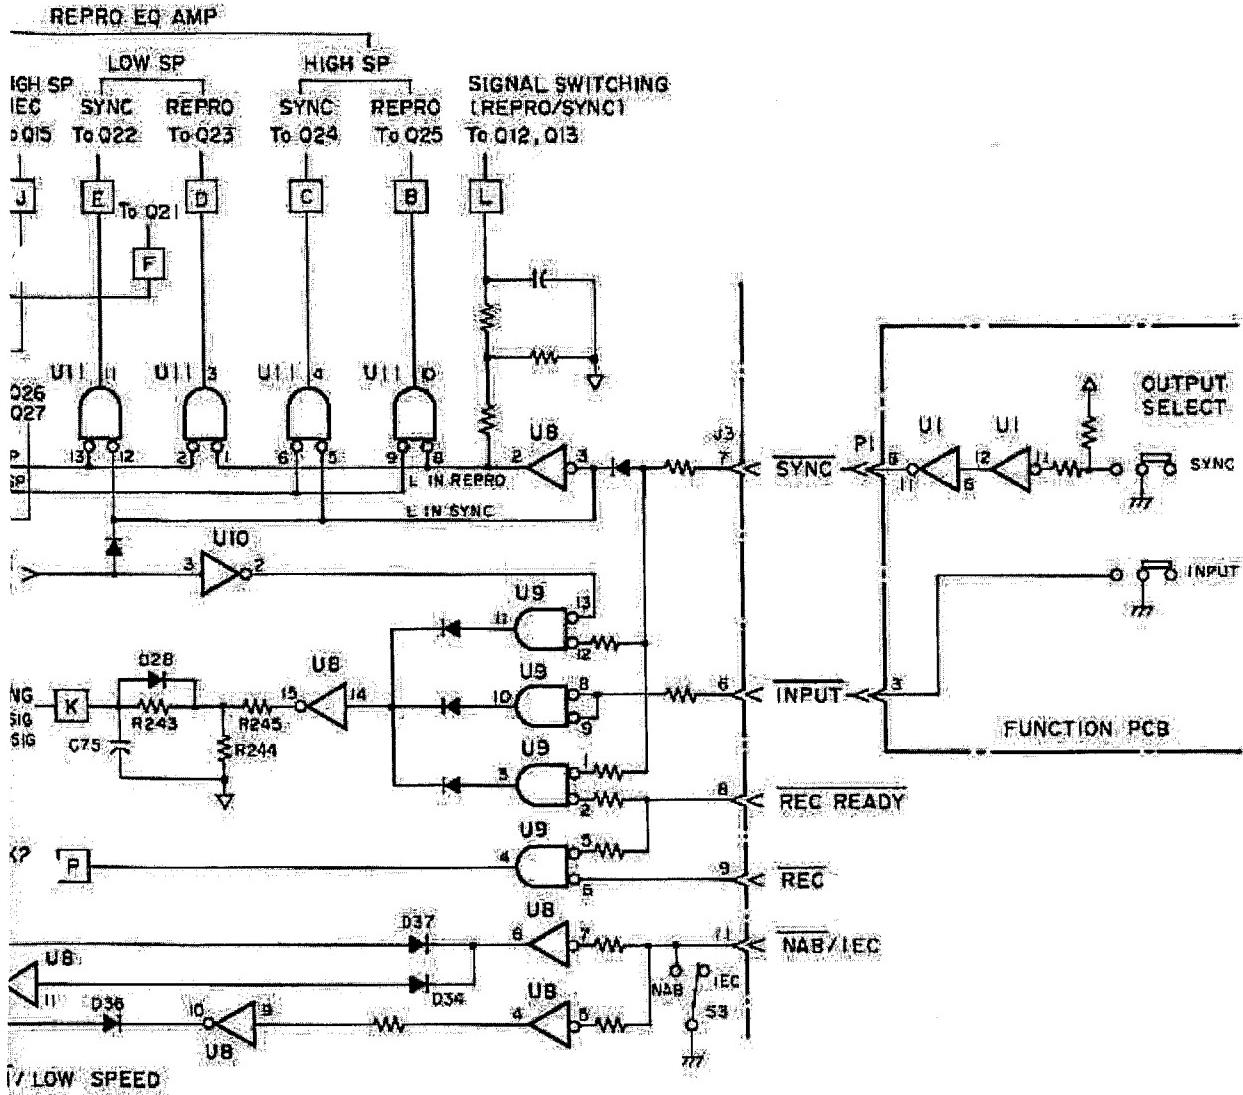

Fig. 8-10-3. Amplifier Control Circuit
Refer to Fig. 8-10-3, Amplifier Control Circuit.
- c) Next, when the record mode is released, the REC SIG applied to input pin 6 of U9 (pin 4, 5, 6) (see Fig. 8-10-3) goes high and logic control signal [P] goes low. This causes
put pin 13 of U9 (pin 11, 12, 13) goes high. As input pin 13 of U9 goes high, its output pin 11 goes low, and, consequently, output pin 15 of U8 (pin 14, 15) (shown in Fig. 8-10-3) goes high. This starts the charging to C75, and, after completion of the charging, control logic signal K becomes high.